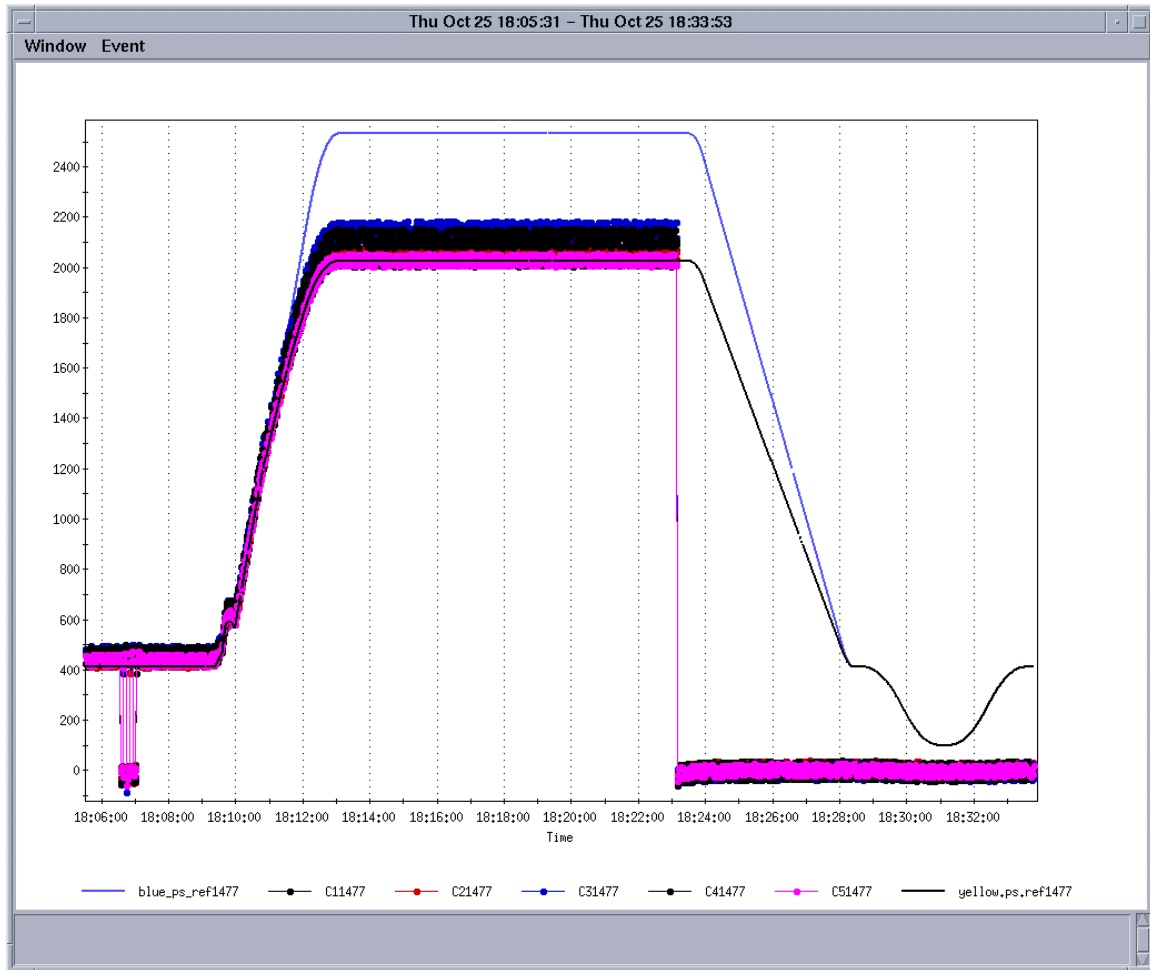

Figure 1 Not RHIC Magnetic Field ...
- lower Yellow kick strength (fig 1)